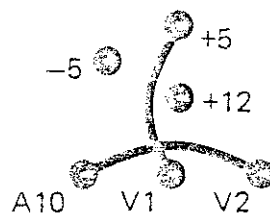

FIGURE III-12 POWER JUMPERS FOR 2316E ROM'S AND 2716/8716 EPROMS
- 7) Connect jumpers V1 and V2 as shown in Figures III-12 AND III-13 for the particular type of ROM device used at U46.